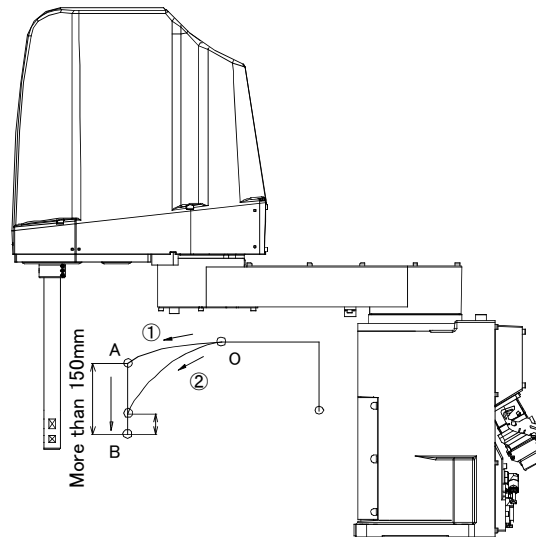

Fig.2-9 : Recommended path when positioning at the bottom edge of the Z axis
- 3) When positioning the work near the bottom edge of the Z axis, if no effectiveness is achieved in step ② above, perform operation ① (robot path: O → A → C). In the case of operation 2 (robot path: O → B → C), residual vibration may occur. (Refer to Fig. 2-9.)